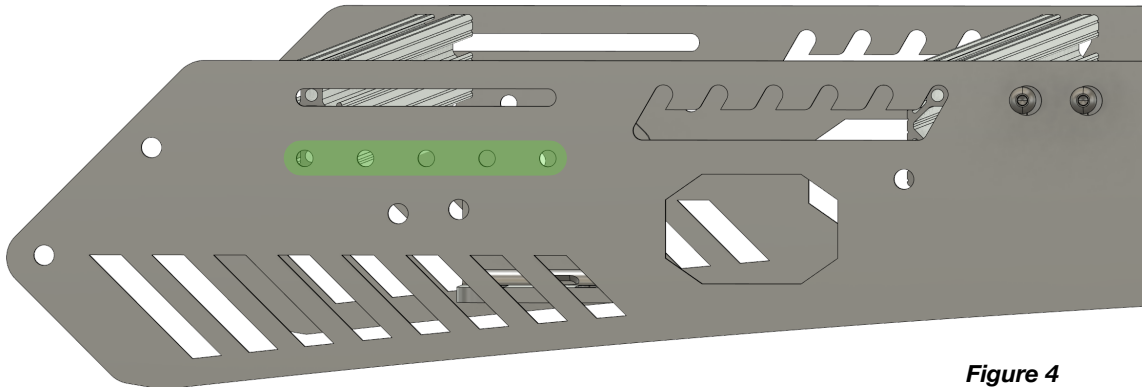

Figure 4
In this configuration (Figure 4) the front load bar is mounted vertically. In this orientation the load bar can be “fixed” in any of the five positions (indicated by the green rectangle). When using this configuration the upper slot would be for one bolt/lock washer while the second bolt/lock washer would pass through any of the five (5) holes allowing you to station the load bar for various mounting options including larger, heavier light bar attachments without the need for reinforcement.